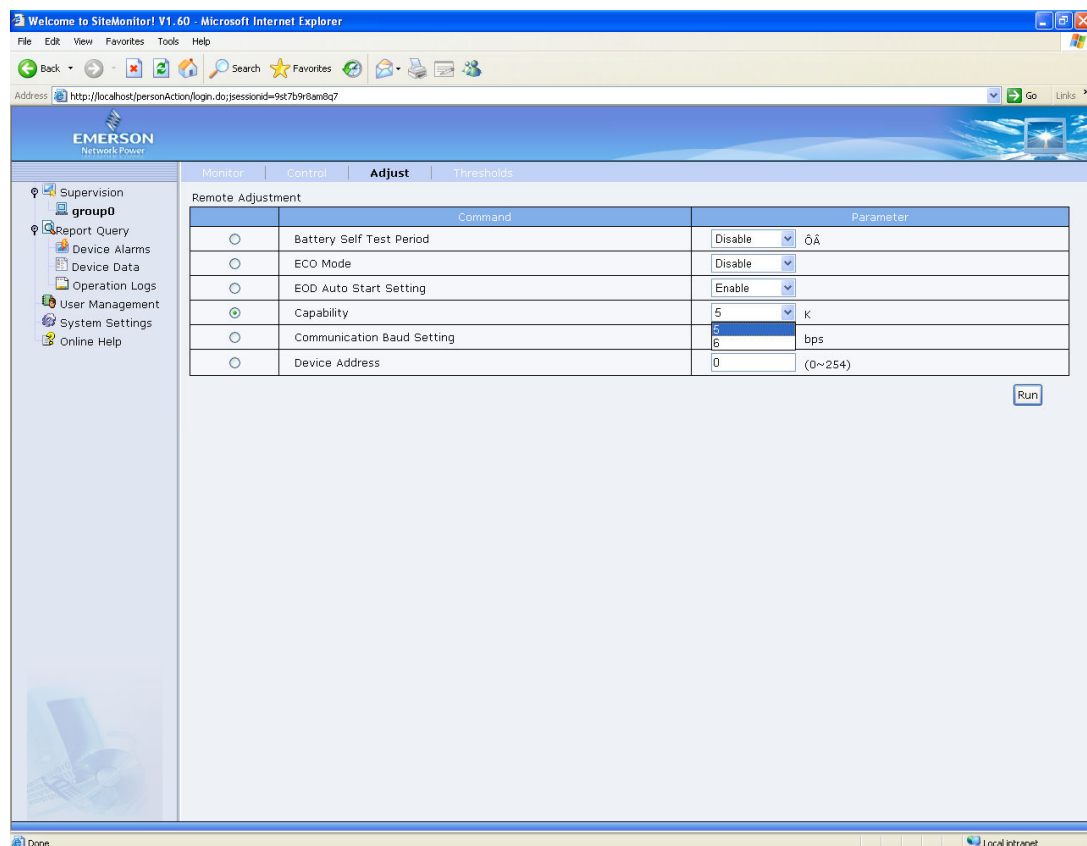

Figure 26 Capability selecting interface
6. Click the **UHA1R UPS** tab to pop up the interface shown in Figure 26.